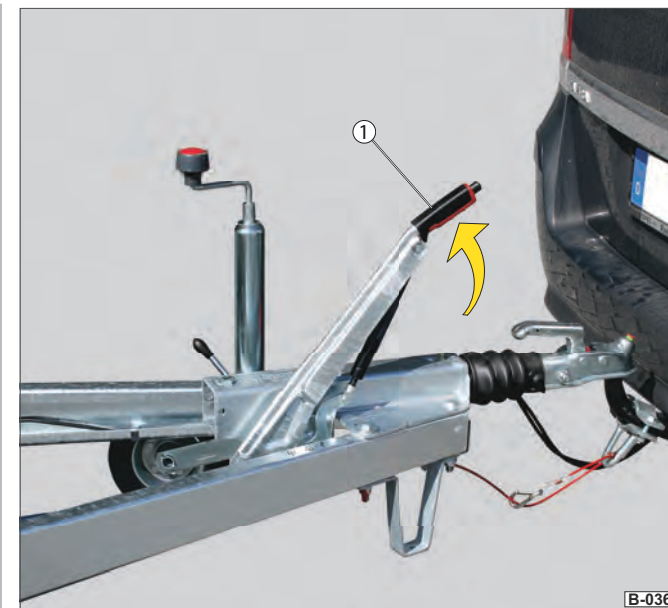

Fig. 28 Hand brake engaged
- ▶ Pull the hand brake lever (Fig. 28 /1) right up.